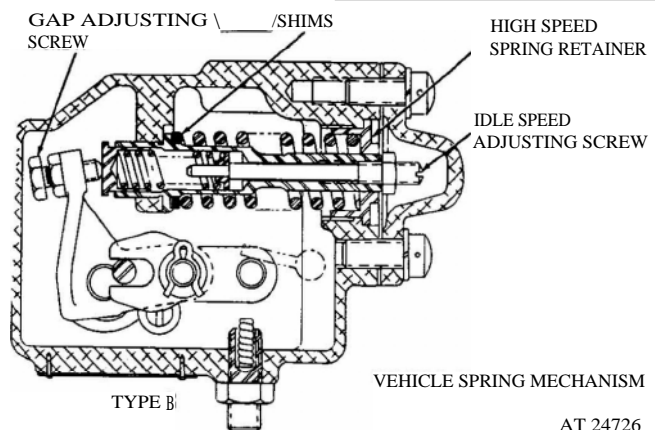

Figure 4. Governor spring assemblies.
TYPE B GOVERNOR SPRINGS (fig. 4):
a. Remove the high speed spring retainer, high speed spring, and **plunger** assembly (fig. 4).